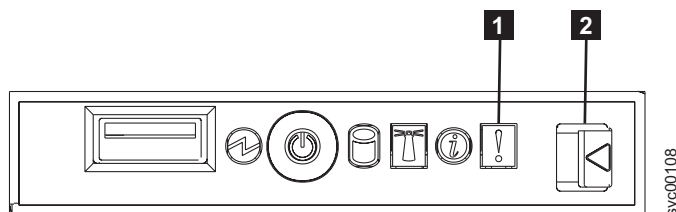

Figure 101. SAN Volume Controller 2145-8F4 operator-information panel
1. Is the Error LED, shown in Figure 101, on the SAN Volume Controller 2145-8F2 or the SAN Volume Controller 2145-8F4 operator-information panel illuminated or flashing?